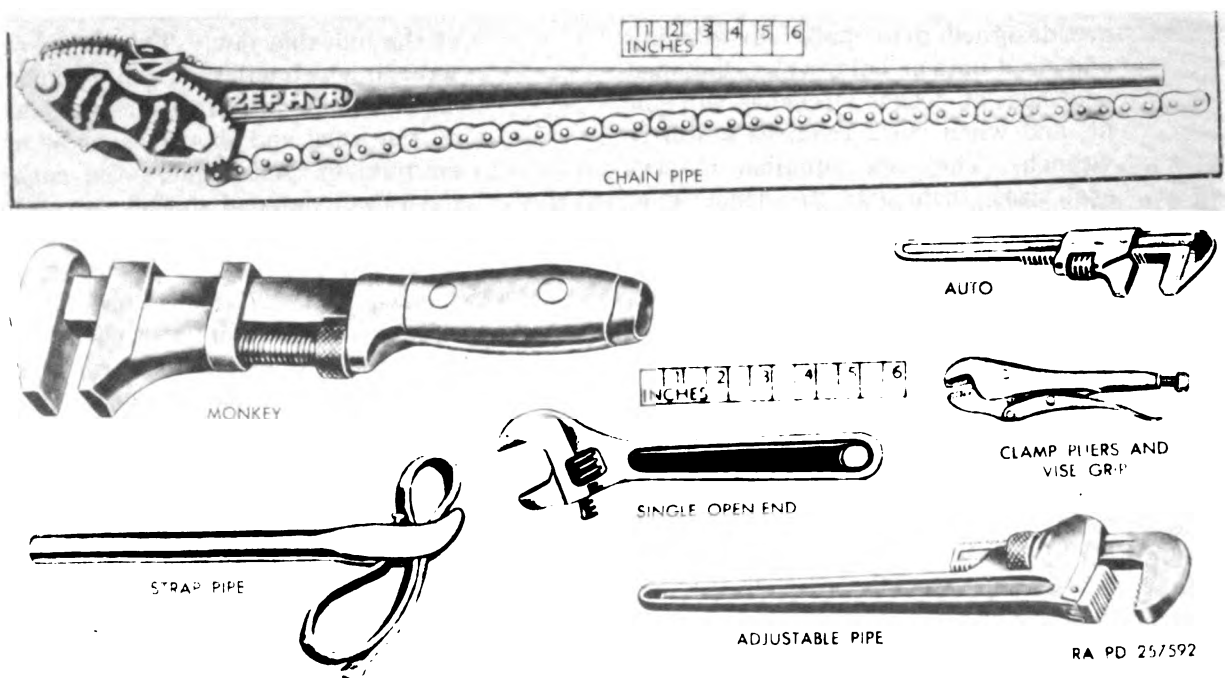

Figure 122. Adjustable wrenches.
- (1) *Single open-end wrench.* The single open-end adjustable wrench (fig. 122) is similar in shape to the fixed-end nonadjustable open-end wrench, but has one adjustable jaw and one stationary jaw. The adjustable end wrenches issued by the Army Ordnance supply system have a $1\frac{1}{8}$ to $2\frac{7}{8}$ -inch jaw openings and are 24 inches long. A knurled nut is rotated to bring the movable jaw up to fit the nut or bolt head.
- (2) *Auto and monkey wrenches.* The
auto and monkey wrenches (fig. 122) are similar in design. They are of sturdy construction and are made to fit a wide range of nuts and bolts. They are designed principally for turning odd sized nuts or bolts which the open end, box, or socket wrenches will not fit, and when work requires a sturdy wrench. They are supplied in several sizes, from 5 to 21 inches long.
- (3) *Clamp pliers and vise grip wrench.* The clamp pliers and vise grip wrench (fig. 122) has one movable jaw and one stationary jaw. The movable jaw is adjusted by an adjusting screw in the base of the stationary jaw handle. The movable jaw can be clamped around a nut or bolt after setting the jaw to the desired size. This type wrench is issued in two sizes; $1\frac{1}{8}$ -inch jaw opening capacity and 7 inches long, and $1\frac{1}{4}$ -inch capacity and 10 inches long.
- (1) *Adjustable pipe wrench.* The adjustable pipe wrench (fig. 122) has two jaws that are not parallel. The outer
- (2) *Strap pipe wrench.* The strap pipe wrench (fig. 122) is also used to turn cylindrical parts, but will not mar the work because the strap serves as jaws. These wrenches are issued in a $\frac{1}{8}$ - to 2-inch pipe capacity size and a 1- to 5-inch pipe capacity size.
- (3) *Adjustable chain pipe wrench.* The adjustable chain pipe wrench (fig. 122) is a long-handled tool with a single jaw and a length of chain that fits around the pipe to be turned and over the connection at the end of the jaw. The chain acts as the other jaw. It is used for gripping rough pipe work on large diameter pipe. These